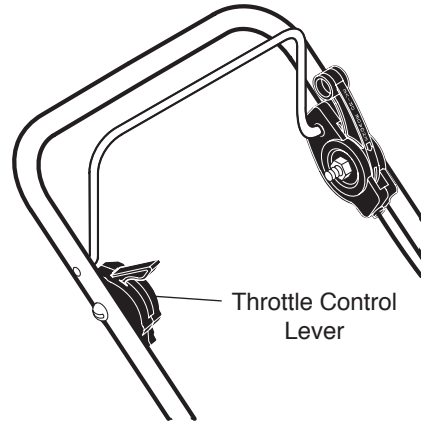

Figure 6
3. To stop engine, pull the throttle control lever completely back to the STOP position. (See Figure 6)